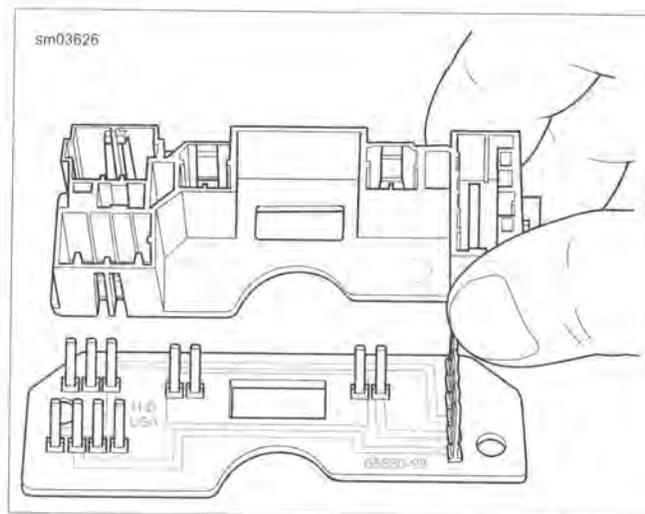

Figure 7-20. Place Pin Housing Over Circuit Board
3. See Figure 7-20. Install pin housing/circuit board with screw. Tighten to 40-48 **in-lbs** (4.5-5.4 Nm).